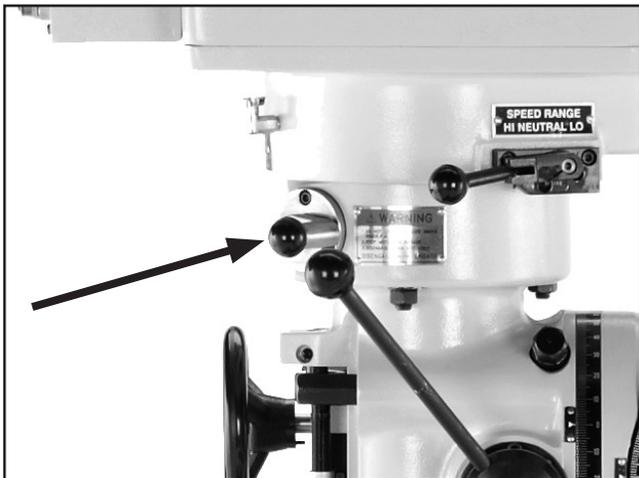

Figure 35. Quill auto-downfeed selector.
2. Pull the knob of the quill auto-downfeed selector out and rotate it clockwise to the forward **DISENGAGE** (manual) position (see **Figure 35**).